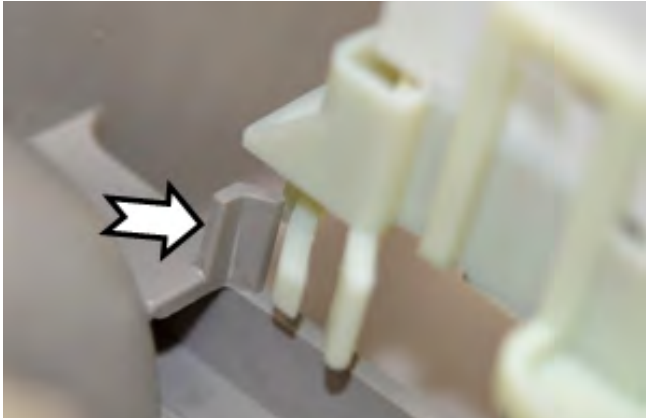

Figure 6
5. Release the drain pump lock where it engages the sump, see figure 6.